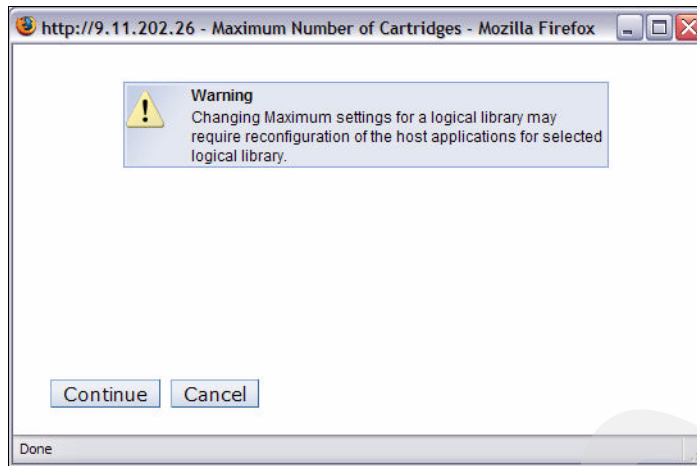

Figure 2-63 Maximum Number of Cartridges Warning
2. After clicking **Go**, a warning like the one shown in Figure 2-63 appears.